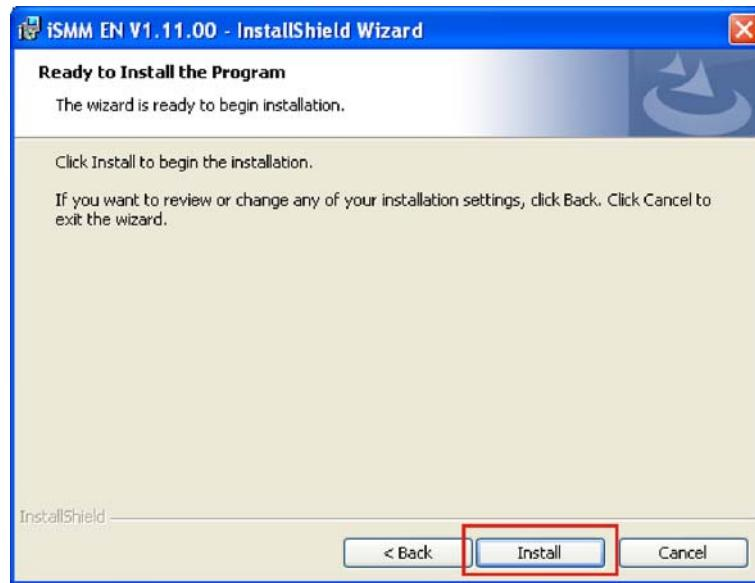

**Figure 7-34:** iSMM Setup Type
**Step 15:** The Setup Type screen appears. (**Figure 7-34**)
**Step 16:** Select “Complete” (**Figure 7-34**)
**Step 17:** Click **Next** to continue. (**Figure 7-34**)